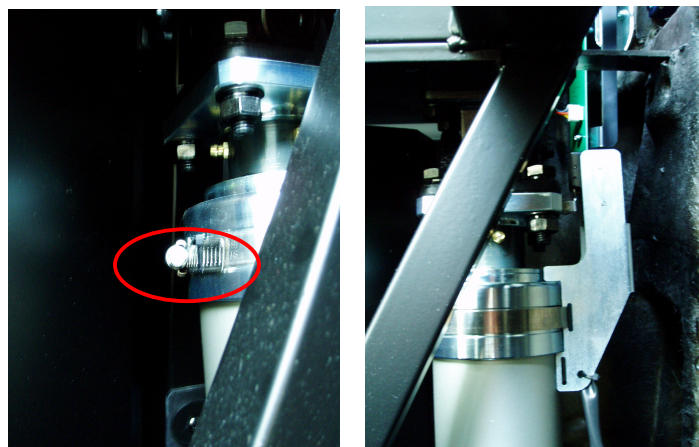

Fig. 6
6. Remove the cable tie(Fig. 6) and by using a Philips Head screwdriver, loosen the sus bend. Remove the Limit Switch Bracket.